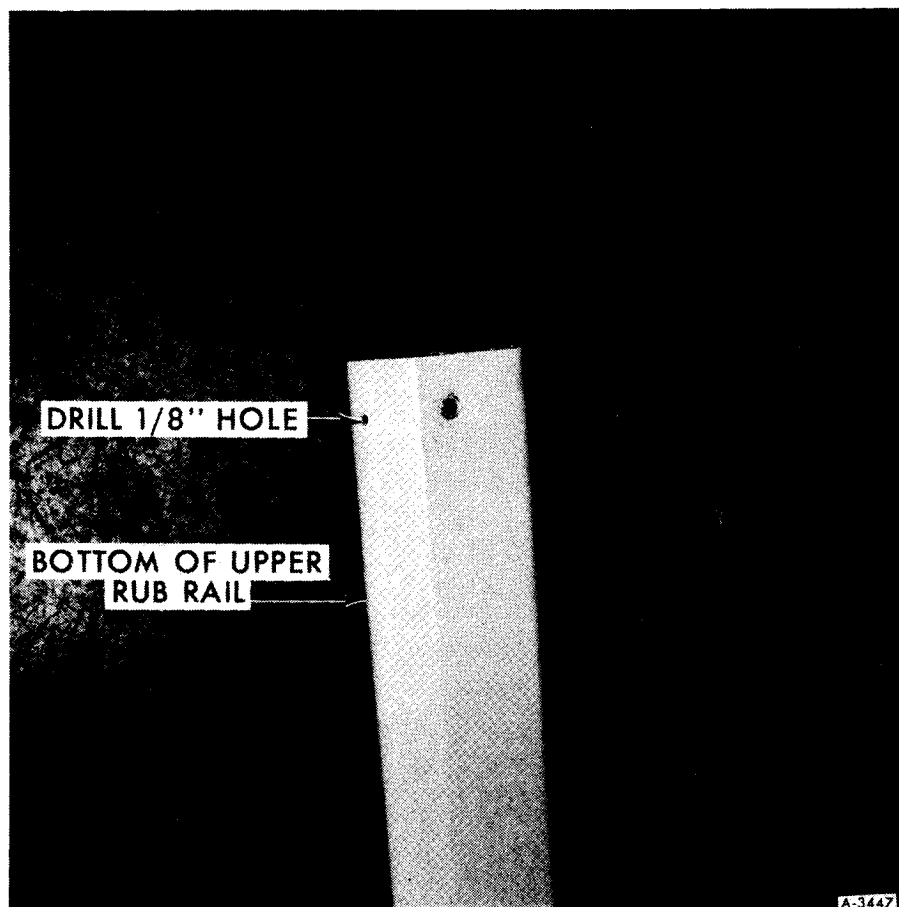

FIGURE 4
7. Drill three 1/8" holes in bottom of rub rail, one at each end and one in the middle as shown in Figure 4.